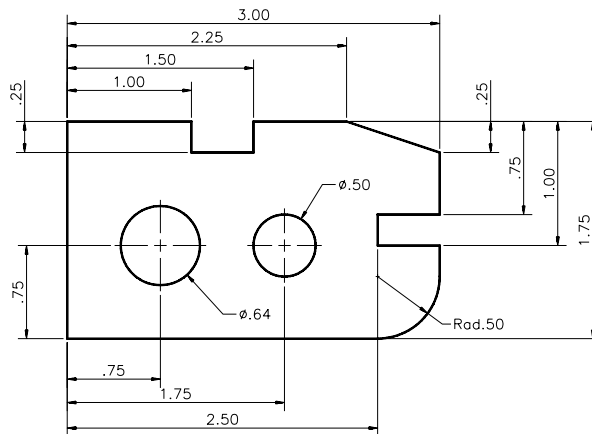

Figure 10-35 Drawing for Example 1
The following example illustrates the concepts of dimension style families, Figure 10-35.
1. Start a new file in the **2D Drafting & Annotation** workspace, and draw an object, as shown in Figure 10-35.
15. Use the linear and baseline dimensioning to draw the linear dimensions, as shown in Figure 10-35. You will notice that when you enter any linear dimensioning, AutoCAD automatically uses the values that were defined for the linear type of dimensioning.
16. Use the diameter dimensioning to dimension the circles, refer to Figure 10-35. Again, notice that the dimensions are drawn according to the values specified for the diameter type of dimensioning.
17. Now, use the radius dimensioning to dimension the fillet, refer to Figure 10-35.